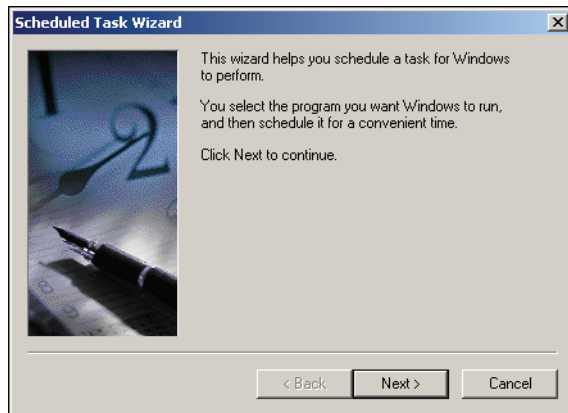

Figure 5-25: Scheduled Task Wizard - Opening Window
- Double-click on the **Add Scheduled Task** option. The Scheduled Task Wizard window will appear (see Figure 5-25).